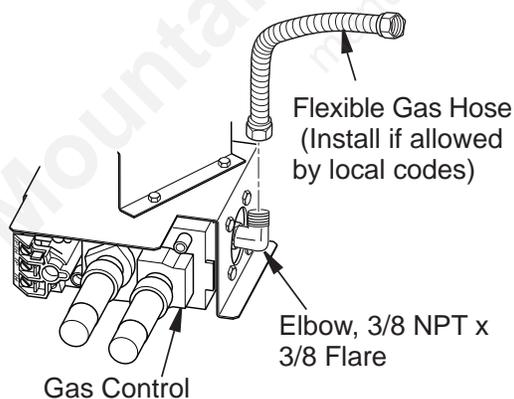

Figure 10 - Attaching Flexible Gas Hose to Appliance Gas Regulator
1. Apply pipe joint sealant lightly to male threads of the 1/2 NPT side of gas fitting elbow (provided) and connect to inlet side of gas control. Remove gas fitting from flexible gas hose (provided) before connecting to elbow (see **Figure 10**).